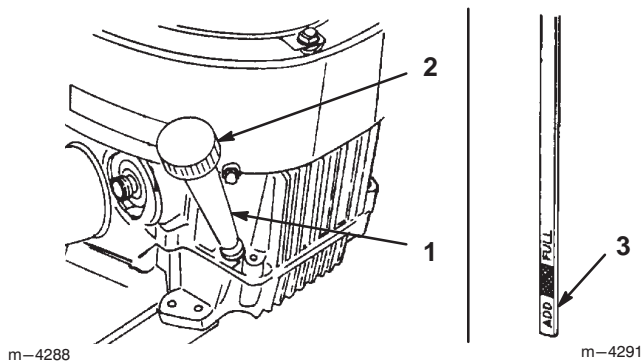

Figure 16
2. Clean around the oil dipstick (Fig. 16) so that dirt cannot fall into the filler hole and damage the engine.
3. Unscrew the oil dipstick and wipe the metal end clean (Fig. 16).
4. Slide the oil dipstick fully into the filler tube, but do not thread it onto the tube (Fig. 16). Pull the dipstick out and look at the metal end. If the oil level is low, slowly pour only enough oil into the filler tube to raise the level to the Full mark on the dipstick.
6. Clean around the oil dipstick and unscrew the cap (Fig. 16).
7. Slowly pour approximately 80% of the specified oil into the filler cap (Fig. 16). Refer to Servicing the Engine Oil, page 22.